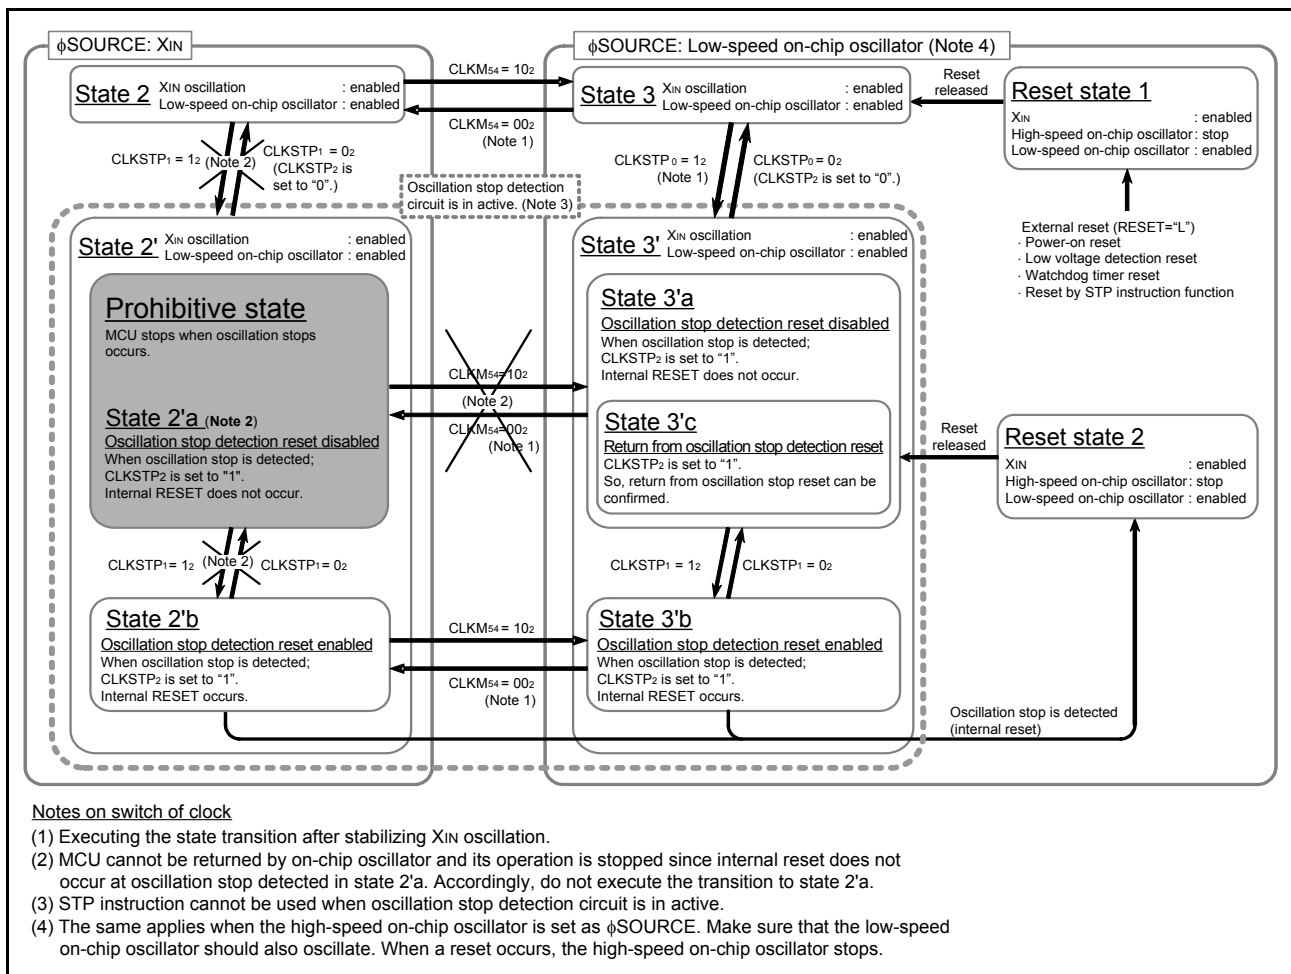

Fig 66. State transition of oscillation stop detection circuit
- (1) Do not execute the transition to “state 2'a” shown in Figure 66 because in this “state 2'a”, MCU is stopped without reset even when XIN oscillation is stopped.
- (2) XIN oscillation stop detection function active bit is not cleared by the oscillation stop detection reset. Accordingly, the oscillation stop detection circuit is in active when system is released from internal reset cause of oscillation stop detection.
- (3) Oscillation stop detection status bit is initialized by the following operation.
- (4) The oscillation stop detection circuit is not included in the emulator MCU “M37549RLSS”.